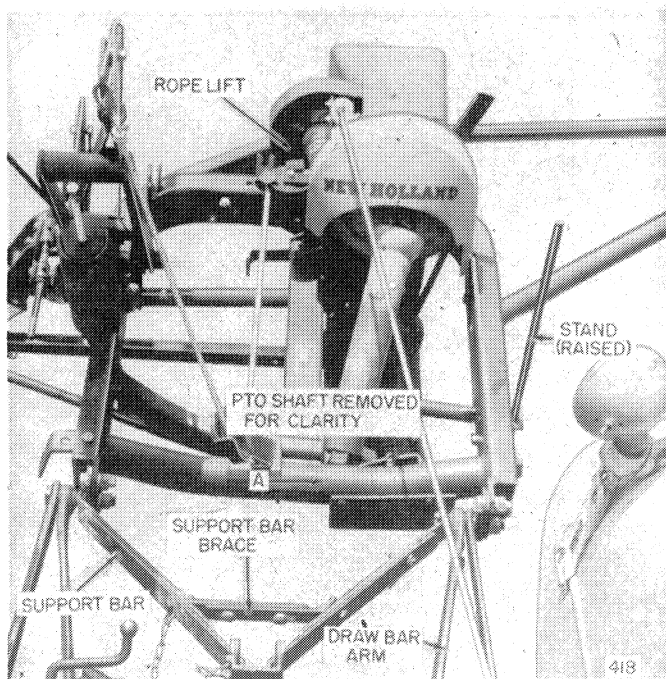

FIGURE 5E
2. Back the tractor into position and attach the support bars, support bar brace, drawbar arms and stabilizer bars as shown in Figure 5E. **NOTE: The front mower frame will have to be approximately 22" high before the stabilizer bars can be attached on the 900 Series Fords.**
3. Raise the mower to the desired frame height. Adjust the length of the support bars to hold the top of the mower frame level and 20-22" above the ground and attach them to the tractor in the lowest hole in the clevis. Bolt the support bar brace between the support bar with the upper bolts as shown in Figure 5E. Normally the right support bar should be slightly shorter than the left to keep the frame level.
IMPORTANT: The clearance between the P.T.O. shaft shield and the front cross member of the mower frame must never be less than 1½ inches when the tractor and mower are setting level. See Point A, Figure 5E. The mower P.T.O. shaft can be bent when the mower is operated on uneven ground, if the clearance is less than 1½ inches. Lengthen the support bars if more clearance is needed.